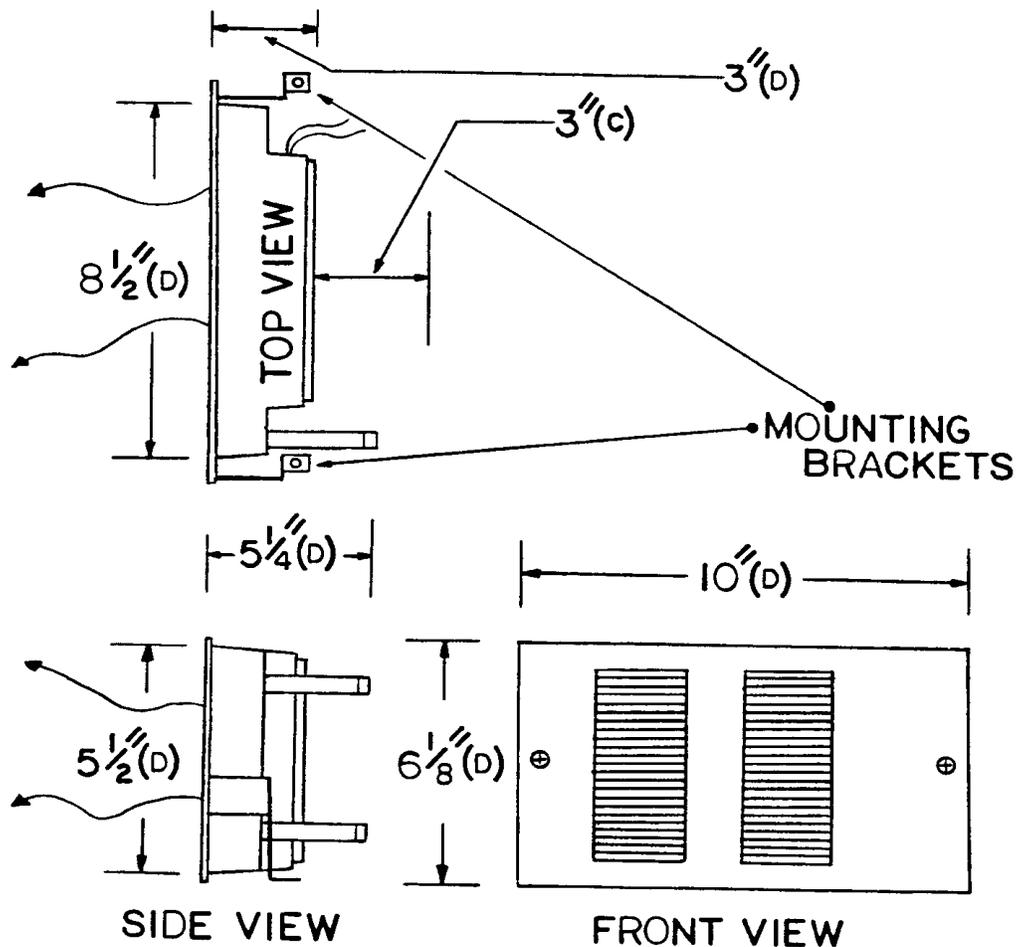

Figure 12
- B. Sufficient ventilation (return-air) must be supplied to the heat exchanger, see Figures 12 and 13. **Do not** mount the heat exchanger in an area that has no opening for return-air to enter. Mounting the heat exchanger without sufficient ventilation will severely reduce its overall performance (heat output). If possible, return-air should be drawn in from the same bay the heat exchanger is located in.
- Fasten the Whisper's two mounting brackets (two screws or bolts required) so the heat exchanger cannot move or shift under normal operating conditions, see Figures 12 and 13.